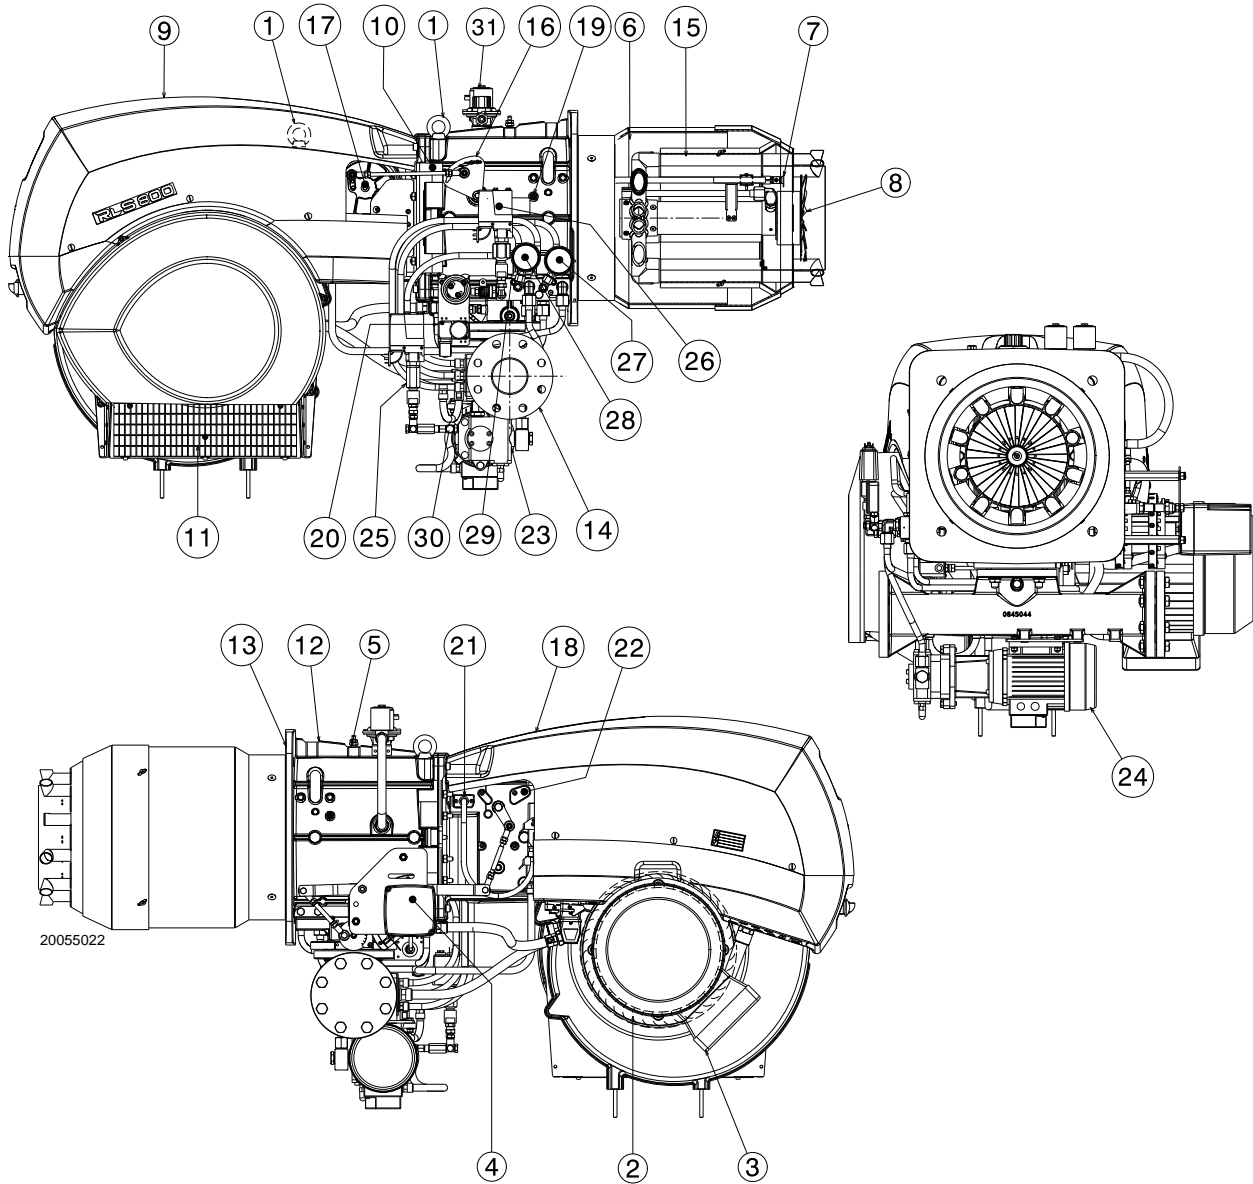

Fig. 4
- (1) Reference conditions: Ambient temperature 20°C - Gas temperature 15°C - Barometric pressure 1013 mbar - Altitude 0 m a.s.l.
(2) Pressure at test point 5)(Fig. 4) with zero pressure in the combustion chamber and maximum burner output.
(3) Sound pressure measured in manufacturer's combustion laboratory, with burner operating on test boiler and at maximum rated output. The sound power is measured with the "Free Field" method, as per EN 15036, and according to an "Accuracy: Category 3" measuring accuracy, as set out in EN ISO 3746.